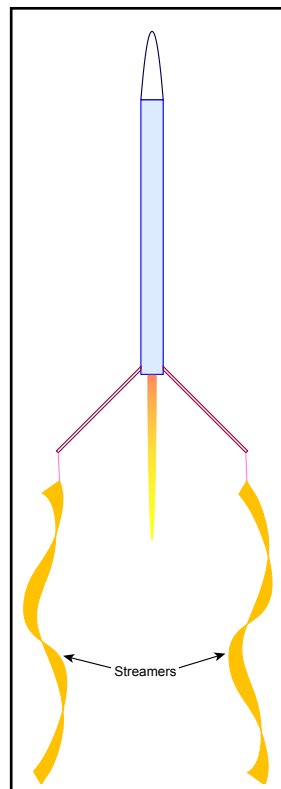

Figure 13: Adding streamers to the rocket adds a lot of drag and puts that force well behind the rocket.
3. You can use streamers attached to the base of the rocket in a pinch to add more drag. See Figure 13.